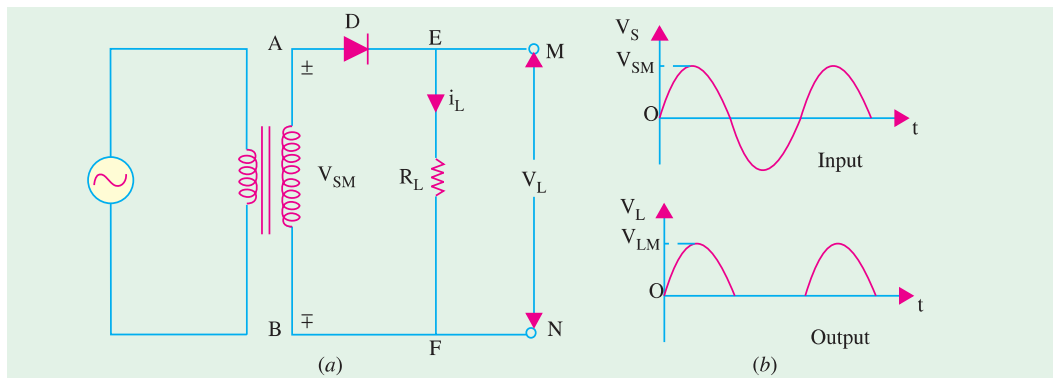

Fig. 55.2
The basic circuit of a half-wave rectifier with a resistive load (but no filter circuit) is shown in Fig. 55.2 (a). The alternating secondary voltage is applied to a diode connected in series with a load resistor R_L . Let the equation of the alternating secondary voltage be $V_s = V_{sm} \sin \omega t$.
During the positive half-cycle of the input ac voltage, the diode D is forward-biased (ON) and conducts. While conducting, the diode acts as a short-circuit so that circuit current flows and hence, positive half-cycle of the input ac voltage is dropped across R_L . It constitutes the output voltage V_L as shown in Fig. 55.2 (b). Waveform of the load voltage is also shown in Fig. 55.2 (b). It consists of half-wave rectified sinusoids of peak value V_{LM}
It is the maximum voltage that occurs across the rectifying diode *in the reverse direction*. As seen from Fig. 55.2, the diode is reverse-biased during the negative half-cycle and the maximum voltage applied across it equals the maximum secondary voltage *i.e.* V_{sm} .